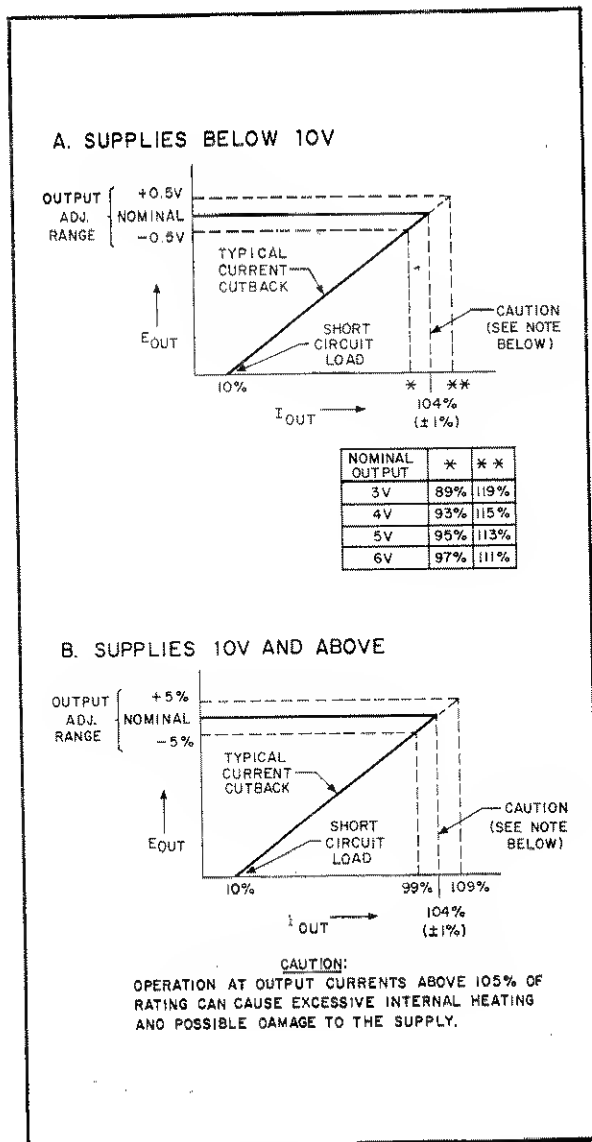

Figure 3-2. Typical Current Limiting Characteristics
3-8 Figure 3-2 shows typical current limiting characteristics for all HP modular supplies. As indicated on the drawing, the current limit point varies in accordance with the output voltage. As received from the factory, the initial current limit point is set to $104 \pm 1\%$ of the current rating with the output voltage at its nominal value. This same current limit setting is recommended for all output voltages within the adjustment span because: (1) the current limit crossover point must be at least 3% higher than the maximum expected operating current to prevent performance degradation; and (2) a current limit setting of higher than 105% of rating creates the possibility of excessive internal heating as specified in the caution note of Figure 3-2. Hence, the current limit potentiometer (accessible through a